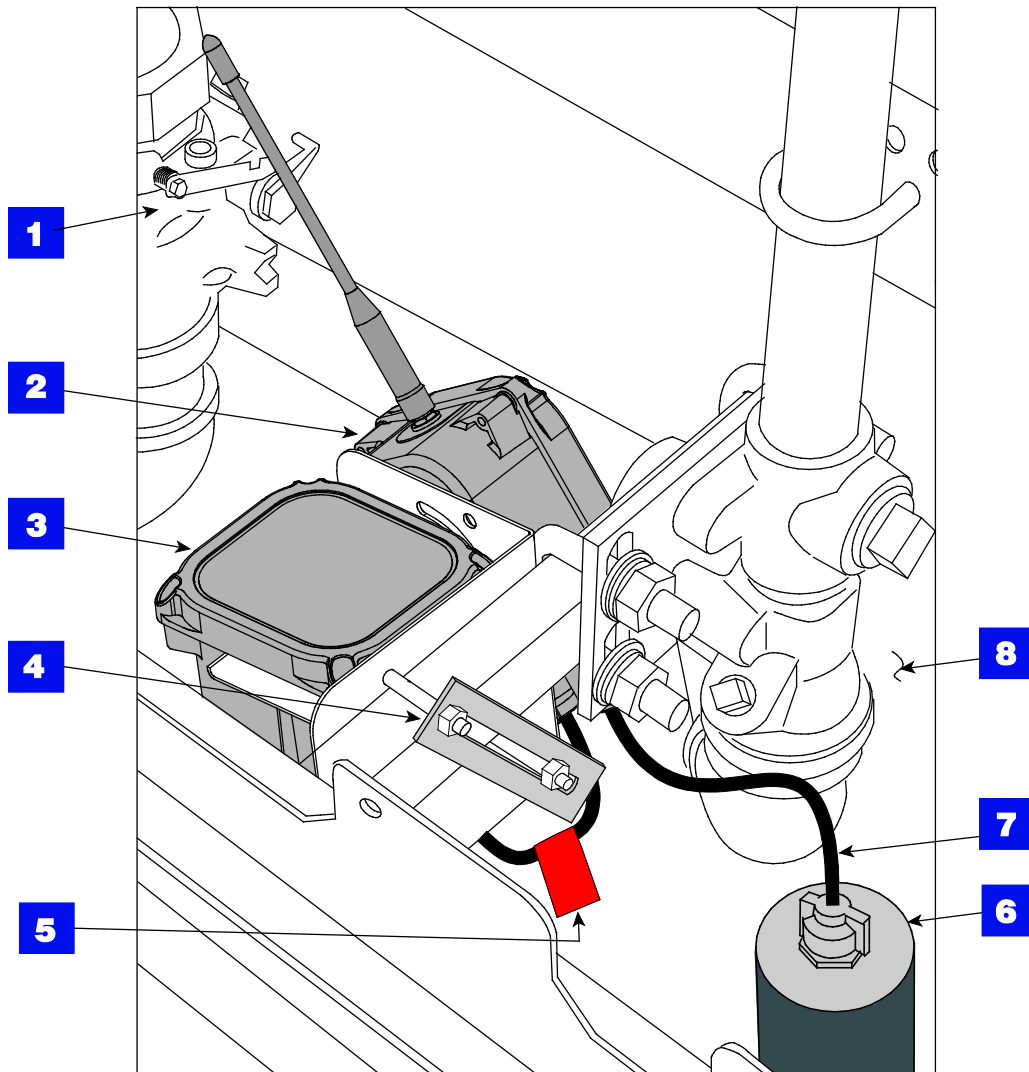

Figure 20. Example transmitter installation in dispenser sump (in operational configuration)
4. Get the 1 inch by 6 inch slotted flat bar from the kit and two 1/4 x 3-inch bolts and two nuts. Clamp the bracket to a section of the square support tubing in the sump, below the shear valve (see Figure 20).
LEGEND FOR NUMBERED BOXES IN FIGURE 20